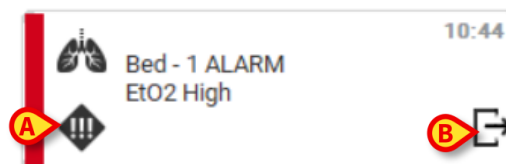

Fig 9
In the message box (Fig 9), the following information is displayed:
- An icon characterizing the message type (Medium/High/Low priority alarm - Fig 9 **A**)
- A “Callback” button. Click the button to access the patient station on which the notification occurred (Fig 9 **B**)